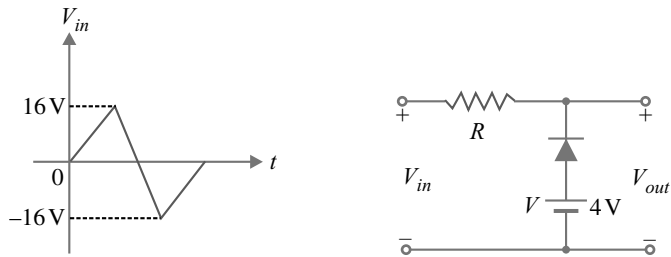

Fig. 16.79
6. Determine the output waveform for the clipper network shown in Fig. 16.79.